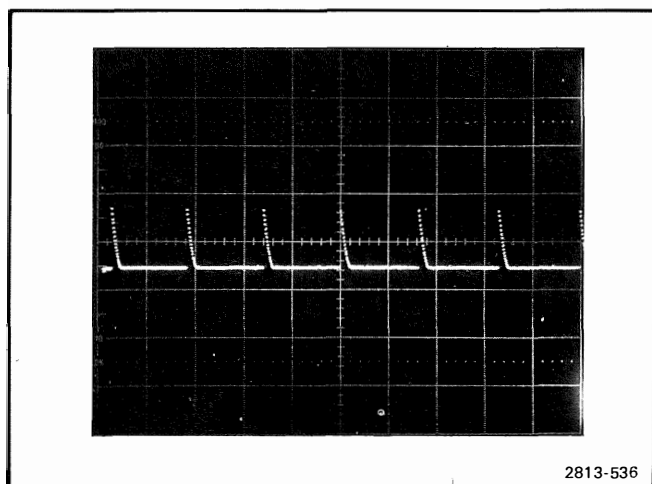

Figure 5-8. Typical display of time marks while checking External Sample Clock In function.
e. **CHECK**—for time marks moving from right to left across the crt. Figure 5-8 shows a typical display.